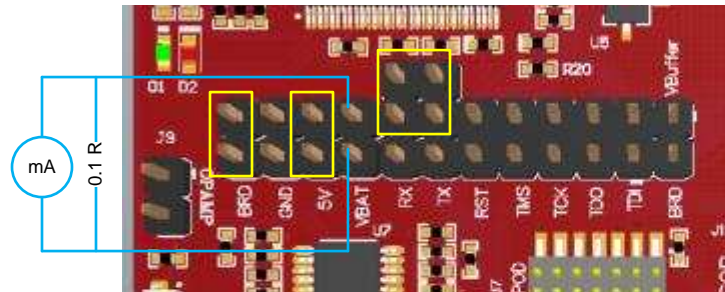

Figure 1-40. Active Current Measurement
See the following instructions to measure active power (see Figure 1-40).
2. Solder a 0.1-Ω resistor on a wire which can be connected to a voltmeter/oscilloscope, as shown in Figure 1-40. Or, attach a jumper across J18 so that it can be used with a current probe.